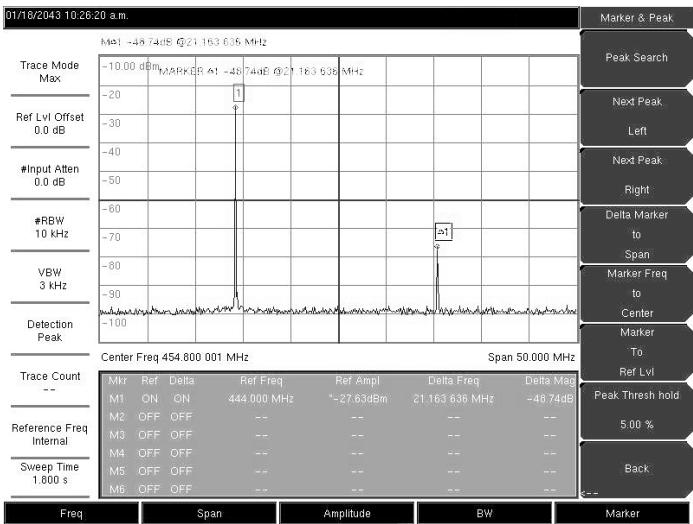

Figure 5-2. Simulated Out-of-Band Spurious Emission Measurement
- Step 10. Repeat Steps 9 and 10 for the remaining spurs. Use either Marker 1 again, or choose another marker. Figure 5-2 shows a simulated out-of-band spurious signal 21.000 MHz from the carrier using a delta marker.